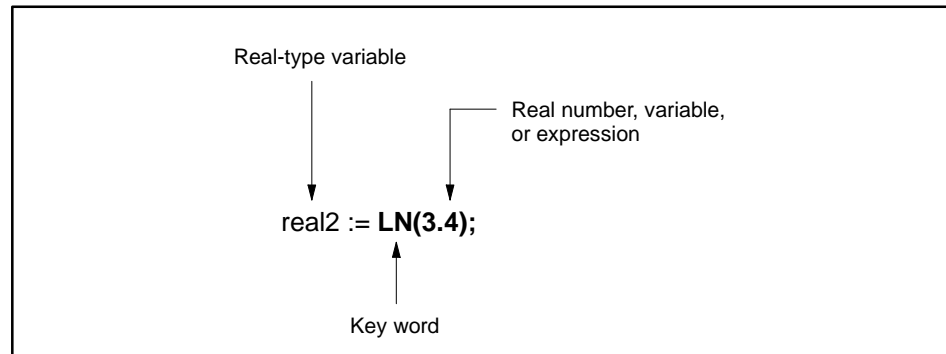

Figure 11-33 LN Function
- The returned value is also a real number. For example, in Figure 11-33, the value of the variable, **real2**, is 1.2.